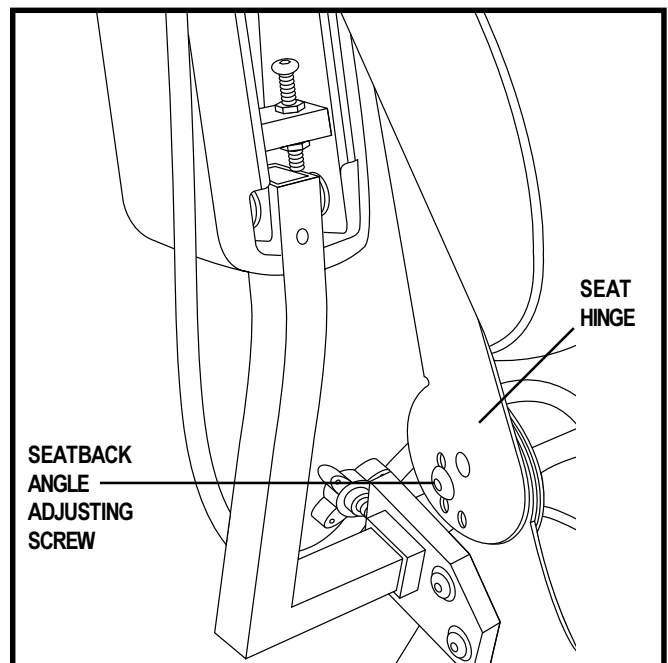

Figure 13. Seatback Angle Adjustment
1. Remove the adjusting screws from each seat hinge. See figure 13.